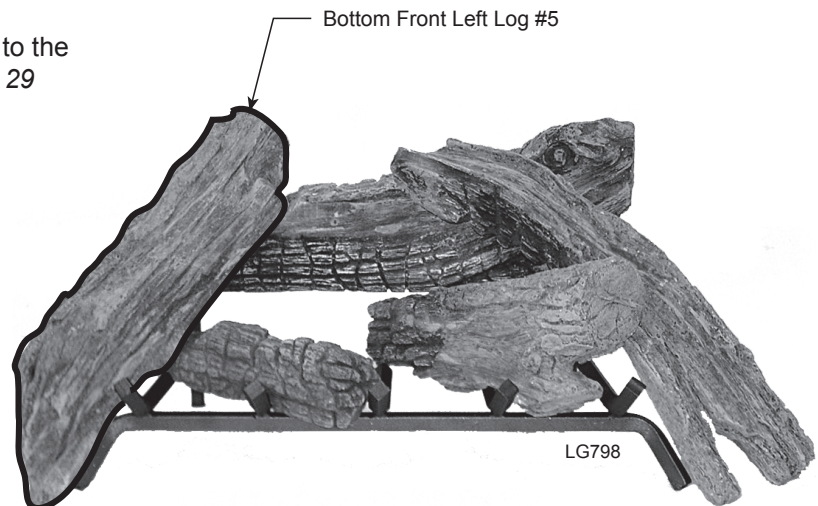

**Figure 28 -
4. Place right end of Top Right Log #4 on the second and third grate prong. *Figure 28*